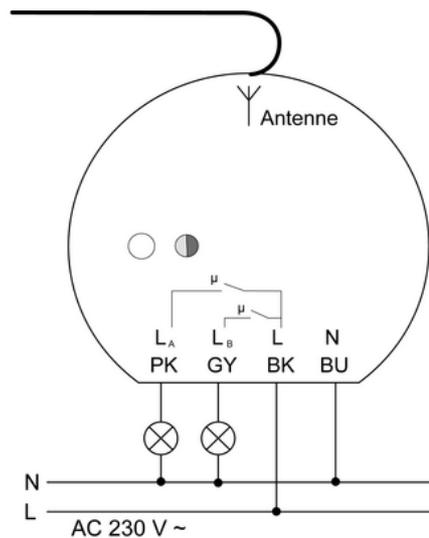

Figure 3
- Connect actuator (1) to lamp terminals according to connection diagram (Figure 3) (see Using the lamp terminals).